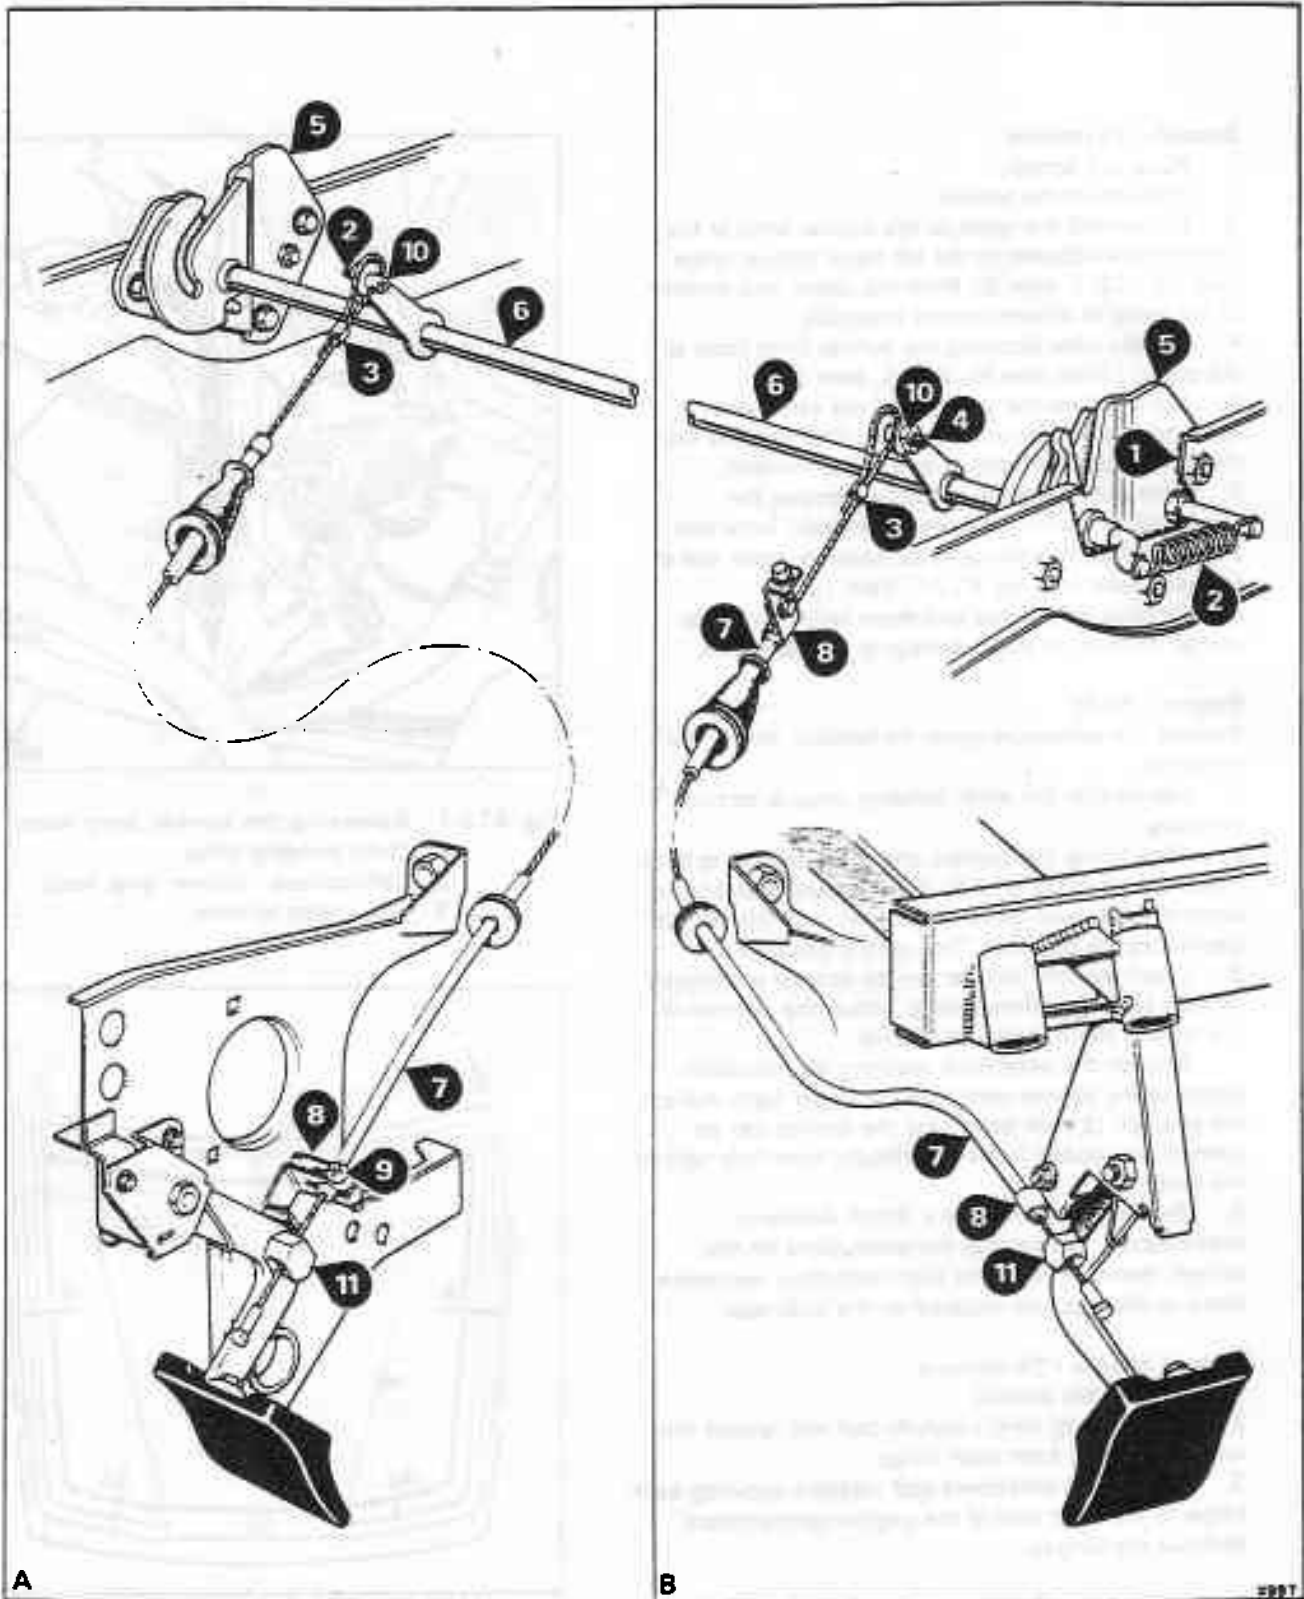

Fig. S12-3 Bonnet operating mechanism
Bonnet catch mechanism - To remove and fit (see fig. S12-3)
guide plates (see fig. S12-3, item 1).
2. Remove the toggle spring from each end of the countershaft (item 2).
3. Unclip the looped end of the bonnet release cable (item 3) then using pliers, straighten the wire.
Bonnet catch operating wire - To remove (see fig. S12-3)
Bonnet catch operating wire - To fit (see fig. S12-3)
8. Push the wire retainer (see fig. S12-3, item 10) through the countershaft lever. Thread the operating wire through the hole in the retainer until the swaged end of the wire fits into the pivot of the handle (item 11).